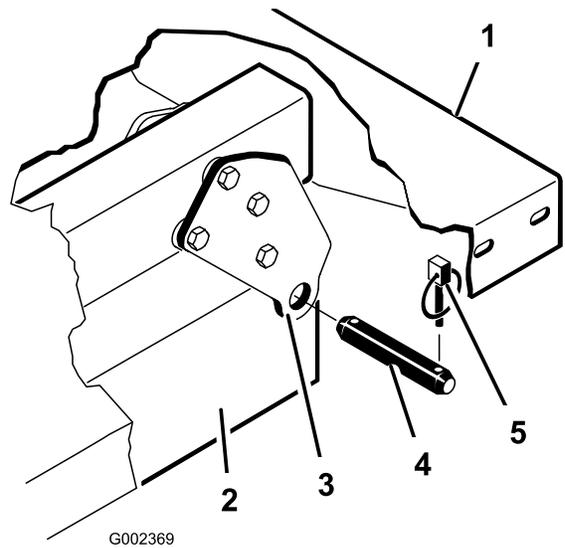

Figure 29
- Remove the clevis pins securing the cylinder rod ends to the bed mounting plates by pushing the pins towards the inside (Figure 29).
- Remove the lynch pins and clevis pins securing the pivot brackets to the frame channels (Figure 29).
Note: Ensure that the rear pivot plates are bolted to the bed frame/channel so that lower end angles to the rear (Figure 29).
- Carefully set the bed onto the machine frame aligning the rear bed pivot plate holes with the holes in the rear frame channel and install 2 clevis pins and lynch pins (Figure 29).
4. Insert the clevis pin from outside of the bed with the lynch pin toward the outside (Figure 29).